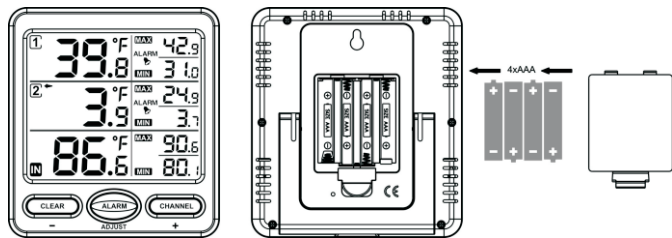

Figure 4
2. Remove the battery door on the back of the display, as shown in **Figure 4** . Insert four AAA (alkaline or lithium, avoid rechargeable) batteries in the back of the display console.